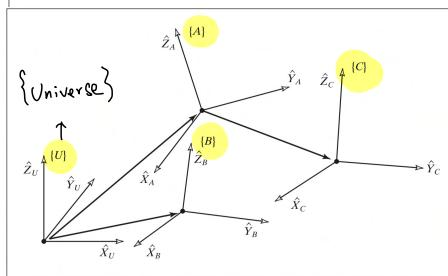

FIGURE 2.3: Example of several frames.
- Figure 2.3: There are 3 frames.  $\{A\}$  &  $\{B\}$  are relative to the Universe coordinate system, and  $\{C\}$  is relative to frame  $\{A\}$ .
③ A Frame encompasses 2 ideas by representing both position and orientation: